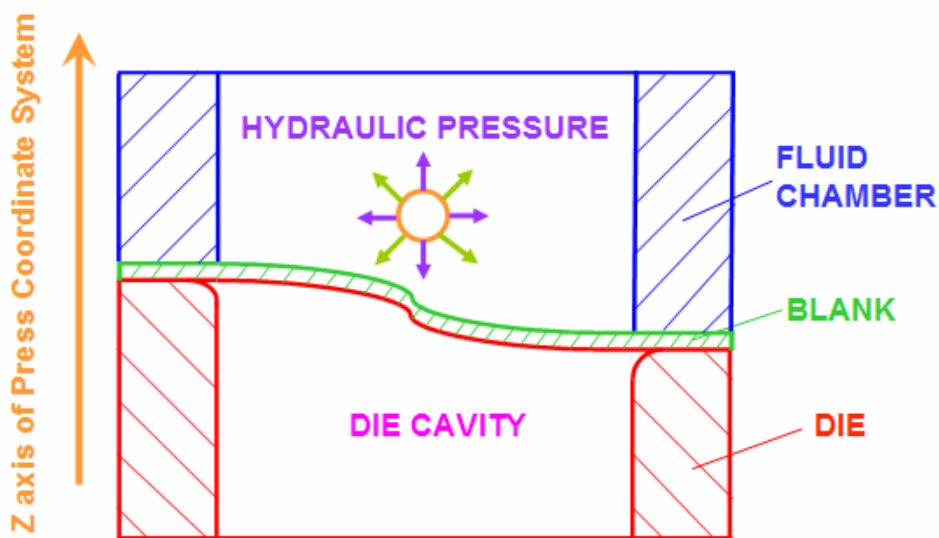

Figure 8.2.85 Fluid Pressure Applied on Top Face of Blank
**ABOVE:** In press coordinate system, fluid pressure is applied on the top face of blank as shown in Figure 8.2.85.